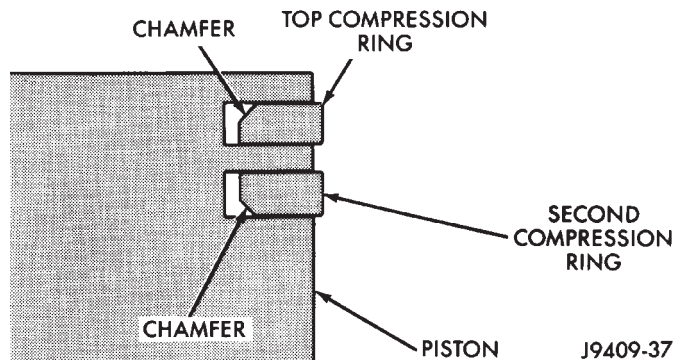

Fig. 15 Compression Ring Chamfer Location
(8) Using a ring installer, install the second compression ring with the chamfer facing down (Fig. 15). The two dots will be facing up.